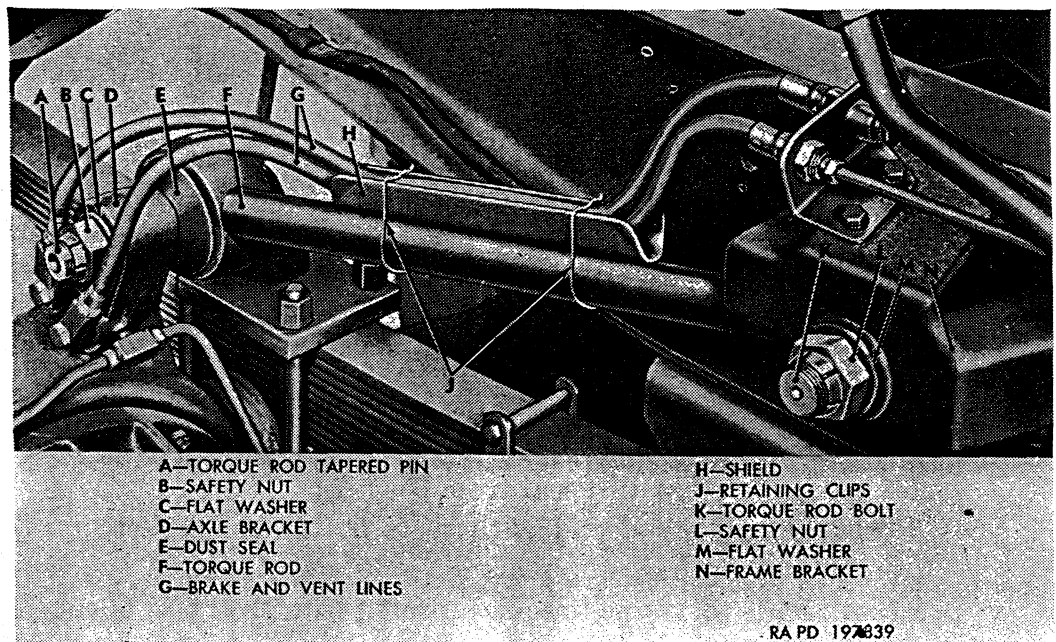

Figure 288. Upper torque rod installed.
- (4) Install 1-14 safety nut on torque rod bolt. Tighten nut to 190 to 250 pound-feet torque.
- (5) Install flat washer and 1-14 safety nut on torque rod tapered pin at axle end. Tighten nut to 350 to 400 pound-feet torque.
d. Upper Torque Rod Removal (fig. 288).
- (1) Jack up frame enough to relieve tension from springs.
- (2) Remove right fender and skirt assembly (par. 304b).
- (3) Remove clips holding brake and vent lines in shield on top of torque rod, then lift lines from shield.
- (4) At frame bracket end of torque rod, remove nut from torque rod bolt.
- (5) Head of torque rod bolt is drilled and threaded for use of slide hammer to facilitate bolt removal. Pull bolt from torque rod and bracket.
- (6) At axle end of torque rod, remove nut and flat washer from torque rod tapered end pin. With soft metal hammer, drive pin out axle bracket.
*e. Upper Torque Rod Installation (fig. 288).*
- (1) Place dust seal on both sides of torque rod bearing at frame bracket end. Position dust seal (E) over end pin at axle end of torque rod (F).
- (2) Position torque rod tapered pin (A) in axle bracket (D), being careful not to dislodge dust seal (E) from bearing.
- (3) Position torque rod end with seals in frame bracket (N). Install flat washer on torque rod bolt (K); then insert bolt through frame side member, frame bracket, and torque rod bearing.
- (4) Using a soft metal hammer, drive bolt into place. As bolt is driven through inner side of frame bracket (N), install flat washer (M), and 1-14 safety nut (L). Nut must be started on torque rod bolt (K) before bolt is fully seated. Tighten nut to 190 to 250 pound-feet torque.
- (5) Install flat washer (C) and 1-14 safety nut (B) on torque tapered pin (A) at axle end; then tighten nut to 350 to 400 pound-feet torque.
- (6) Position brake and vent lines (G) in shield (H) on top of torque rod. Secure lines in shield with two retaining clips (J).
- (7) Install right fender and skirt assembly (par. 304c).